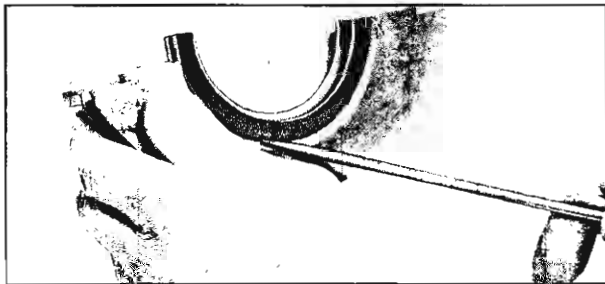

Fig. 105—Removing Seal from Cap
3. Remove oil seal from groove, prying from bottom, using a small screwdriver as shown in Figure 105.